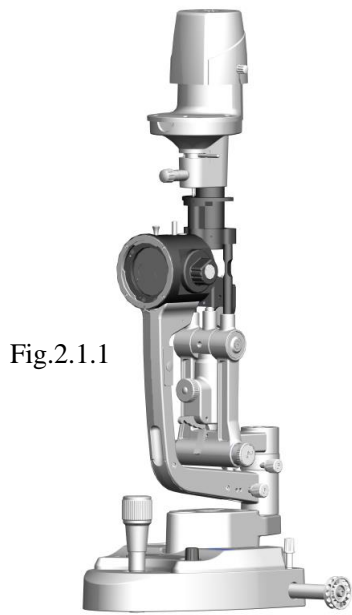

Fig.2.1.1
3. Take out the slit lamp part (Fig.2.1.1), put it on the rails of the metal plate, check whether the wheels can move steadily on the rails. (Fig.2.2.5), place the rail cover to the rail, remove four screws attached to the rail with the screw driver, retighten the previously removed screws. (Fig.2.2.5 and 2.2.6)